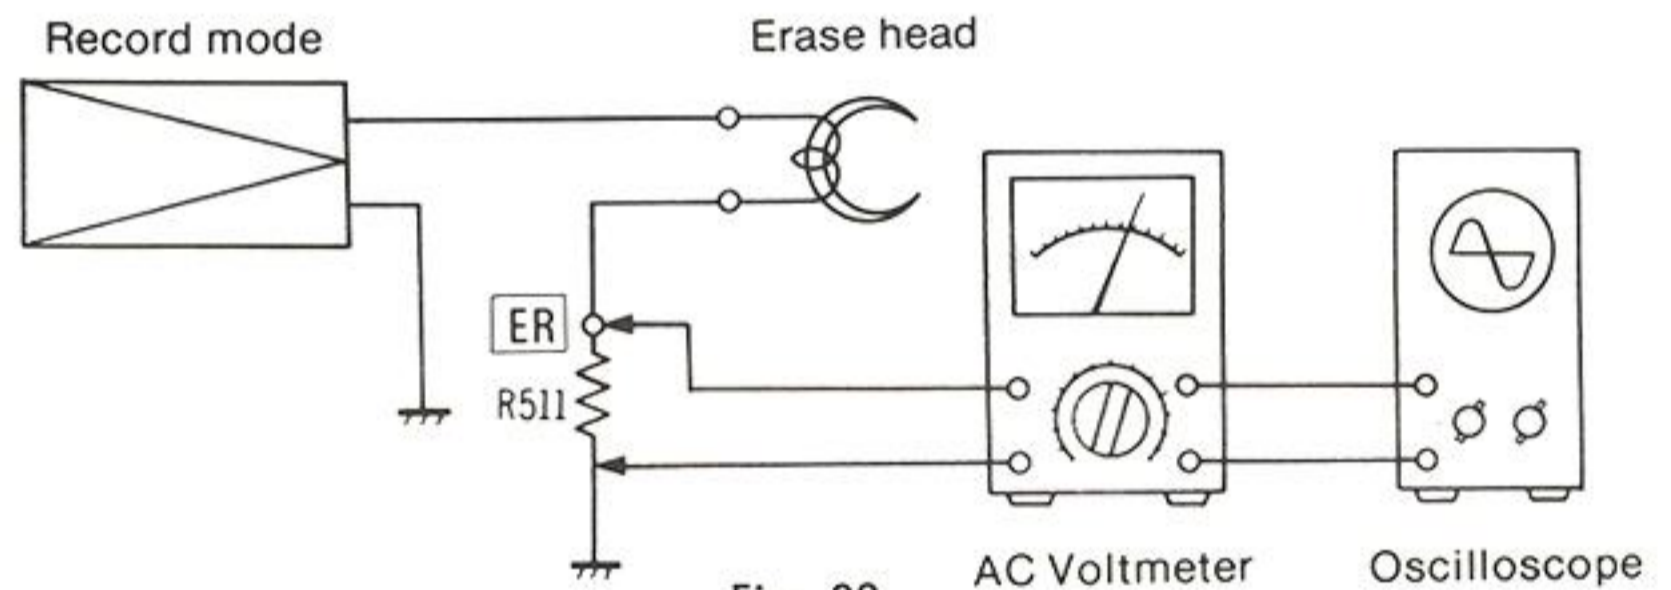
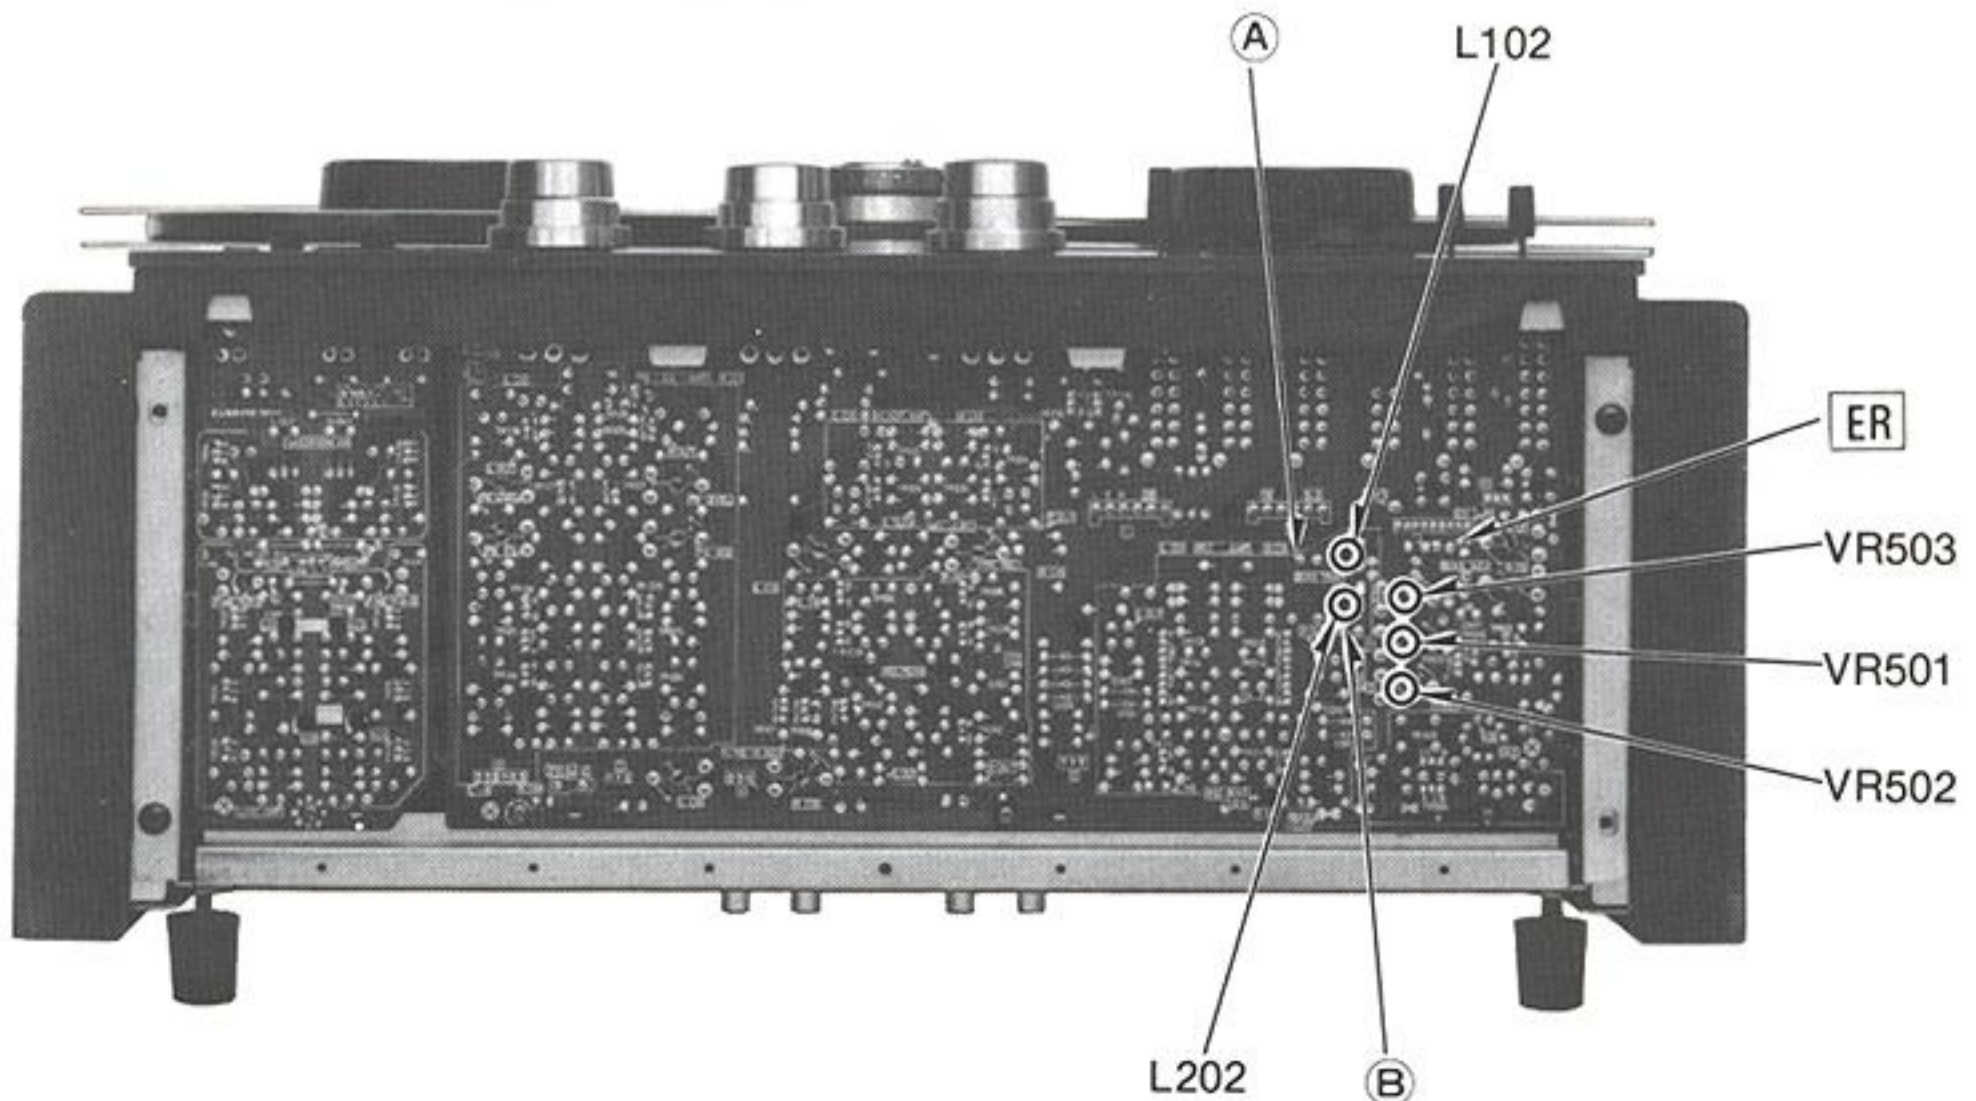

Fig. 38
Fig. 39
| Erase current | <ol style="list-style-type: none"> 1. Test equipment connections are shown in fig. 38. 2. Set the Line-in level control to minimum position. 3. Set the bias selector to "1" position. 4. Set the tape speed selector to "38" position. 5. Set the recording mode selector to "ON" (L-CH) and "OFF" (R-CH). 6. Place unit into recording mode. 7. Measure voltage at point (A) and then calculate erase current by formula below. $\text{Erase current} = \frac{\text{Value read on VTVM (V)}}{1 (\Omega)}$ <div style="border: 1px solid black; padding: 5px; margin: 10px auto; width: fit-content;"> <p>Standard value: Bias selector "1" position: around 65 mA</p> </div> 8. Then set the recording mode selectors to "OFF" (L-CH) and (R-CH), and confirm that the above standard value can be obtained. <p>[Adjustment] If the measured value is not satisfied, adjust the erase current adjustment VR, VR501. (See fig. 39.)</p> <ol style="list-style-type: none"> 9. Next, set the bias selector to the "2" position, and confirm that the standard value shown below can be obtained. <div style="border: 1px solid black; padding: 5px; margin: 10px auto; width: fit-content;"> <p>Standard value: Bias selector "2" position: around 71 mA</p> </div> <p>[Adjustment] If the measured value is not satisfied, adjust the erase current adjustment VR, VR502. (See fig. 39.)</p> |
(See fig. 39.)
Adjustment parts and test points (A) and (B) are shown in figure 39.